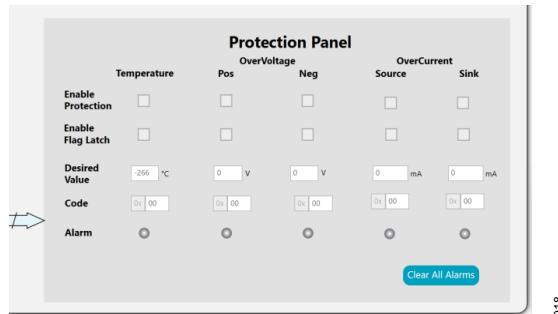

Figure 18. ADHV4710 Fault Protection Features
6. Set overtemperature, overvoltage, and overcurrent protection on the ACE plugin by updating their corresponding **Desired Value** boxes, as shown in *Figure 18*. Check **Enable Protection** and **Enable Flag Latch** to monitor faults. Refer to the ADHV4710 data sheet for more information on the programmable thresholds, and fault monitoring/protection features.